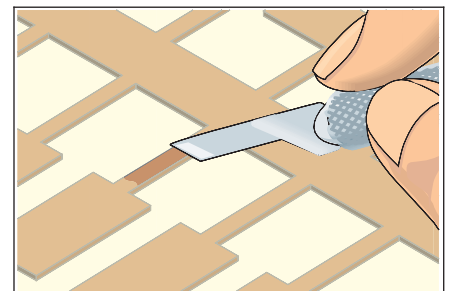

Figure 3 Scrape off the adhesive bonding film from solder joint area.
9. Before trimming out the new pad carefully scrape off the adhesive bonding film from the solder joint connection area on the back of the new pad. (See Figure 3.)